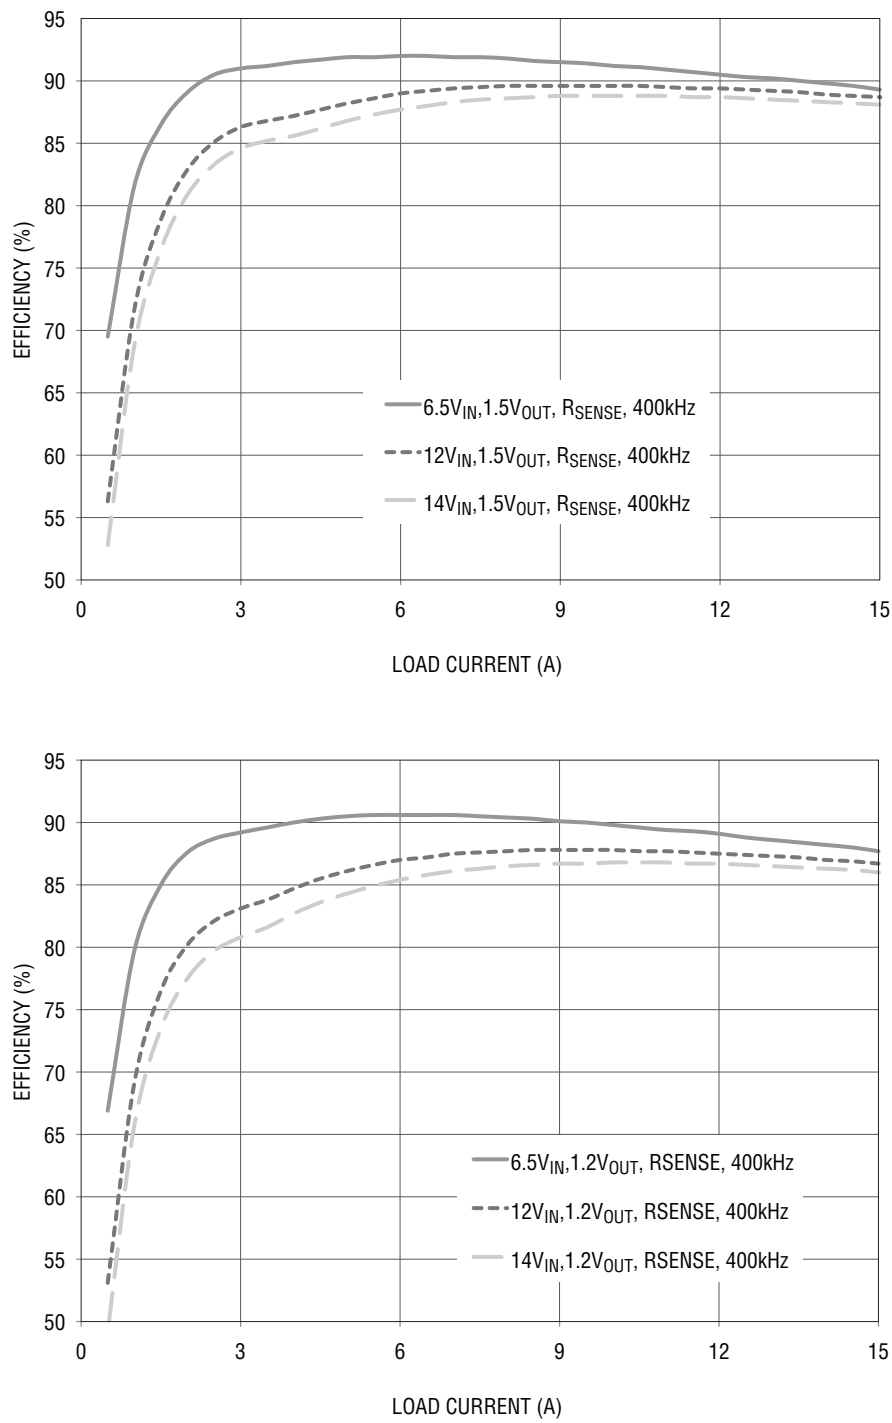

Figure 3. Typical Efficiency Curves vs Load Current with A-A (R_{SENSE}) Board for: (A) 1.5V Rail and (B) 1.2V Rail
**See Figures 3 and 4 for efficiency curves